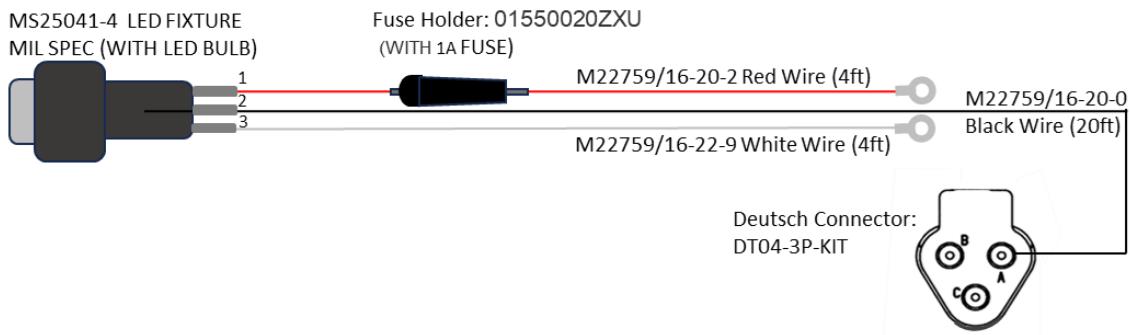

Figure 6 Fault / Status Indicator
4. Connect the electrical wires as shown in figure 6 below.